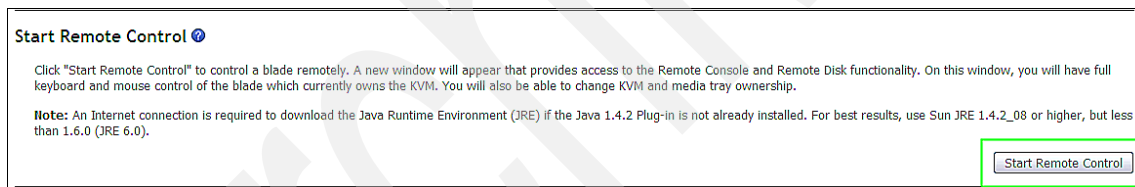

Figure A-5 Start remote control
4. Scroll down to the Start Remote Control section and click **Start Remote Control** as shown in Figure A-5.